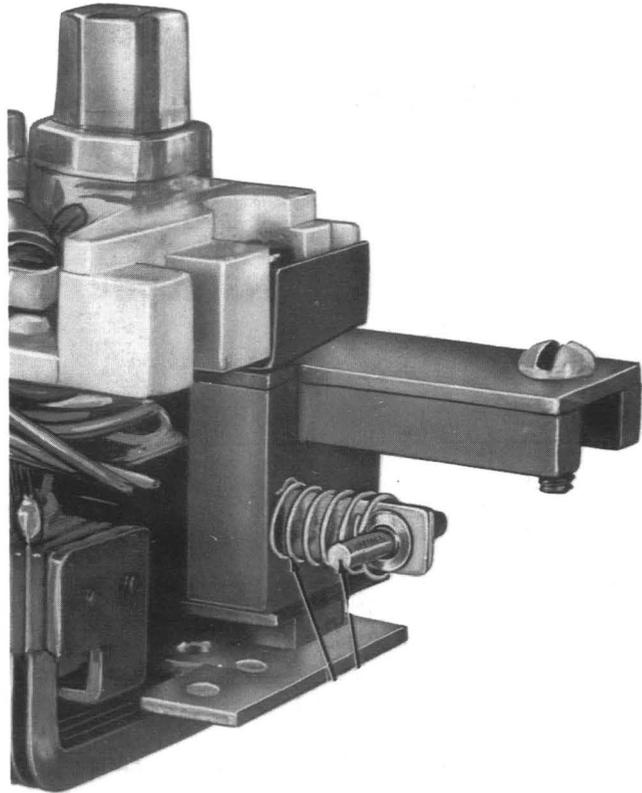

Fig. 1—Location of Latch Bar Return Spring and Pin
2.02 The external return spring for the pivot bar on 3- and 4-type consoles is not used. The 811058361 (P-10E836) latchbar return spring and 811358993 (P-13E899) pin must be retained on one 598A or 656A key (center position preferred). Remove from other keys. On 14- and 15-type consoles, remove the latchbar return spring and pin for the 598A or 656A and 599J or 657J keys. (See Fig. 1.)